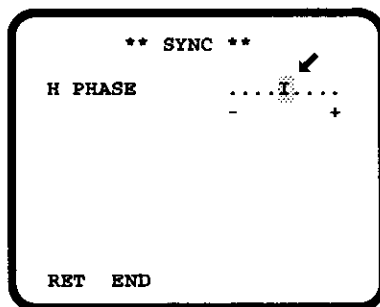

Fig.35.
- The VS gen-lock mode has a second level menu of horizontal phase (H PHASE) as shown in Fig.35.
- After confirming that the cursor is on the "EXT (VS)" position, press the Page Button (PAGE) and synchronization phase adjustment menu is displayed as show in Fig.35.